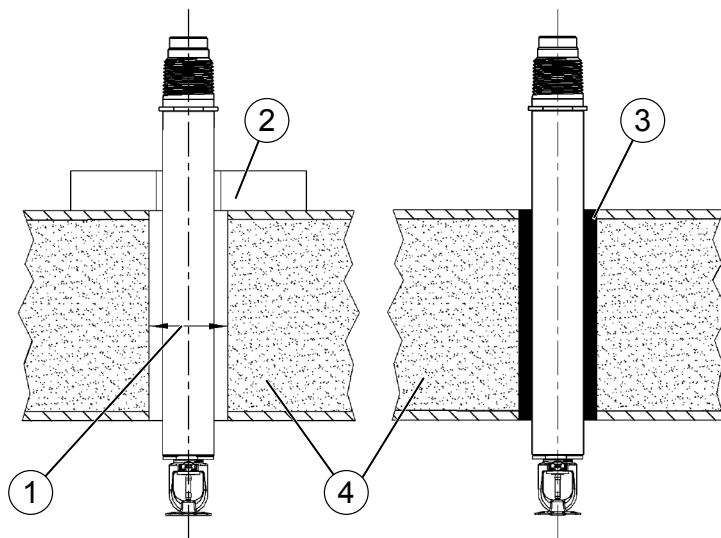

Fig. 8: Seal on the outside (left), seal in the ceiling (right)
To prevent the formation of condensation and ice around the sprinkler body, which can hinder activation or cause a premature, unintentional activation, the space around the down pipe (Fig. 8/1) must be closed or isolated (Fig. 8/3).
- ➔ Seal the opening (Fig. 8/1) with the insulation seal (Fig. 8/2) above the insulated ceiling (Fig. 8/4).
- ➔ Seal the opening (Fig. 8/1) within the insulated ceiling (Fig. 8/4) with a suitable sealant.